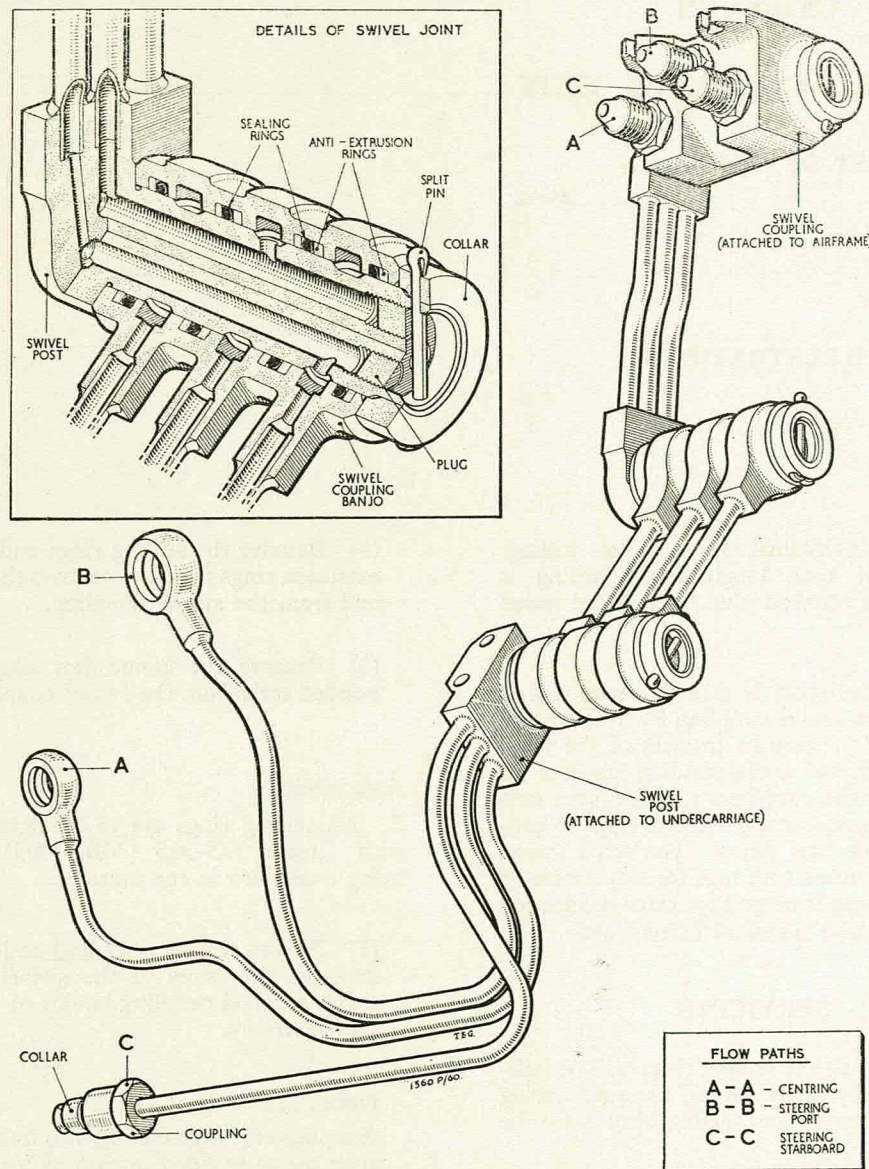

Fig. 1 Swivel coupling unit
(1) Connect the test rig supply line to connection A (fig. 1) and operate the rig. Fluid should flow freely from the banjo A.
(2) Blank off the banjo A and gradually apply pressure up to 5000 lb/in² with the unit remaining static. Leakage is not permissible. Release the pressure.
(3) Repeat the tests (1) and (2) for the pipe lines B—B and C—C.
(4) Carry out the following test for each pipe line separately.
(5) Blank off one end of the pipe line and gradually apply pressure at the opposite end up to 3,300 lb/in². Rotate each swivel joint through 360 deg. (or as far as possible) in a clockwise direction and then in an anti-clockwise direction. Repeat this operation several times. Check that the torque required to rotate each swivel joint at 3,300 lb/in² does not exceed 55 lb. in. Leakage is not permissible.
(6) Release the pressure, disconnect the supply line and remove the blank.